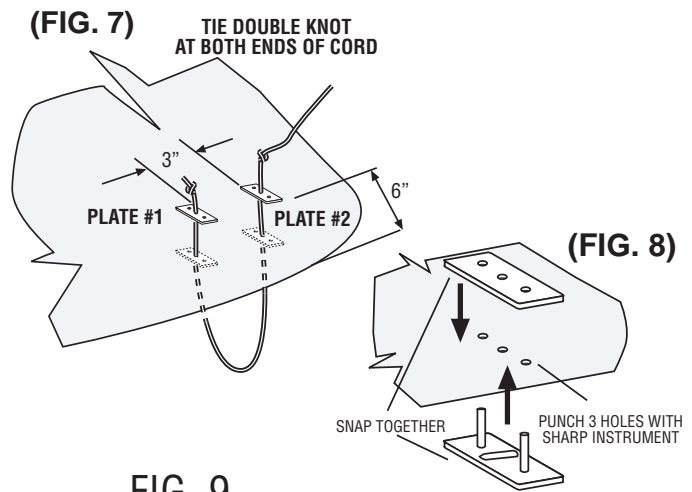

FIG. 9
21. Rotate handwheel slowly. The straps will move the cover away from possible damage on the coping and fold back into itself. Continued rotation of the handwheel will transport the cover underneath the tube and then up, over and onto the tube (**SEE FIG 9**). In the unlikely event that the Main frame "creeps" during this operation, use free hand to hold main Frame until the entire cover is removed from pool. Attempt to keep seams straight and avoid misalignment.